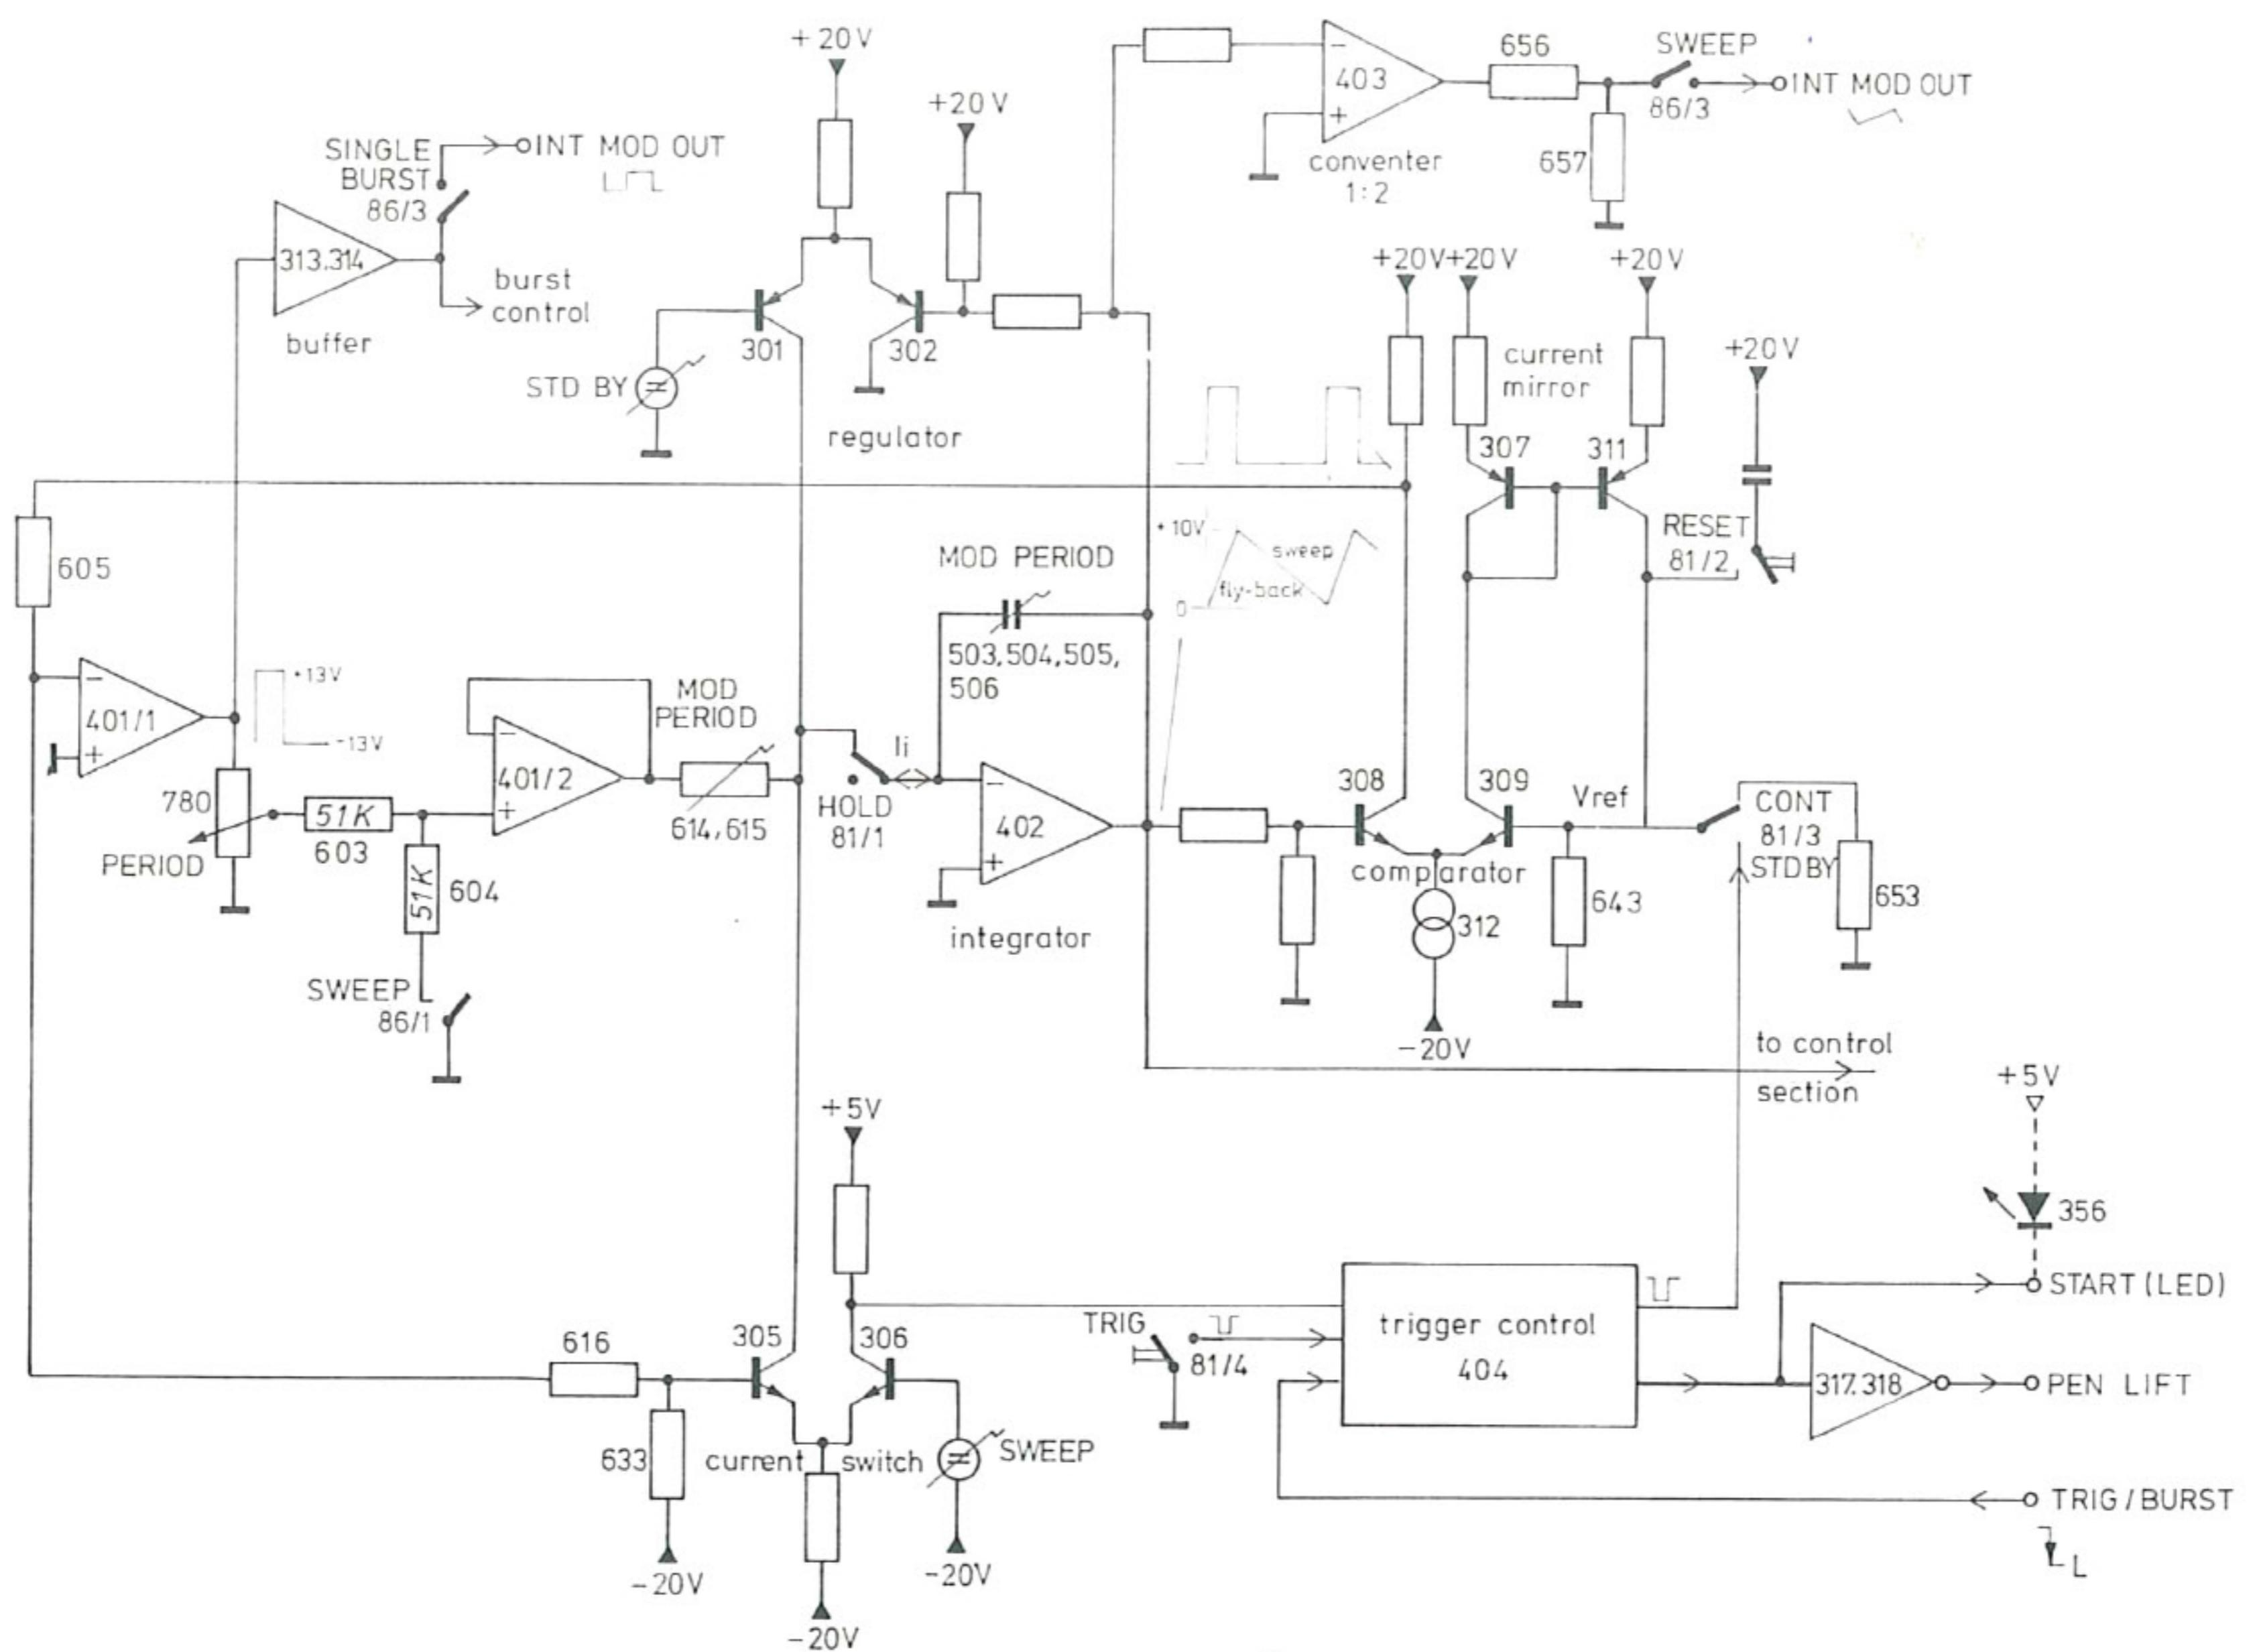

Fig. 4.1 - 1 Modulation generator
4.1.1. Modulation generator, see figs. 4.1 - 1 and 38